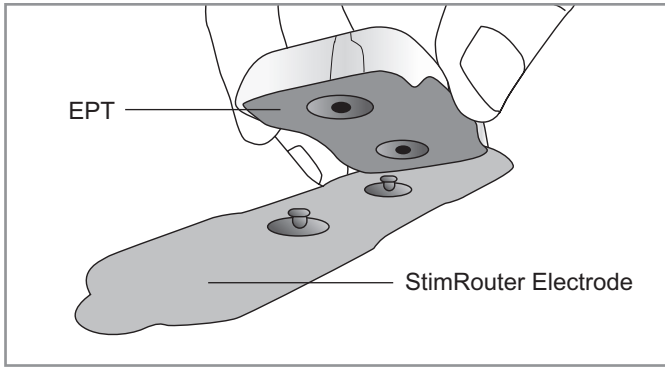

Figure 10-1: StimRouter Electrode and EPT connecting
4. Snap the EPT onto the StimRouter Electrode. See Figure 10-1.